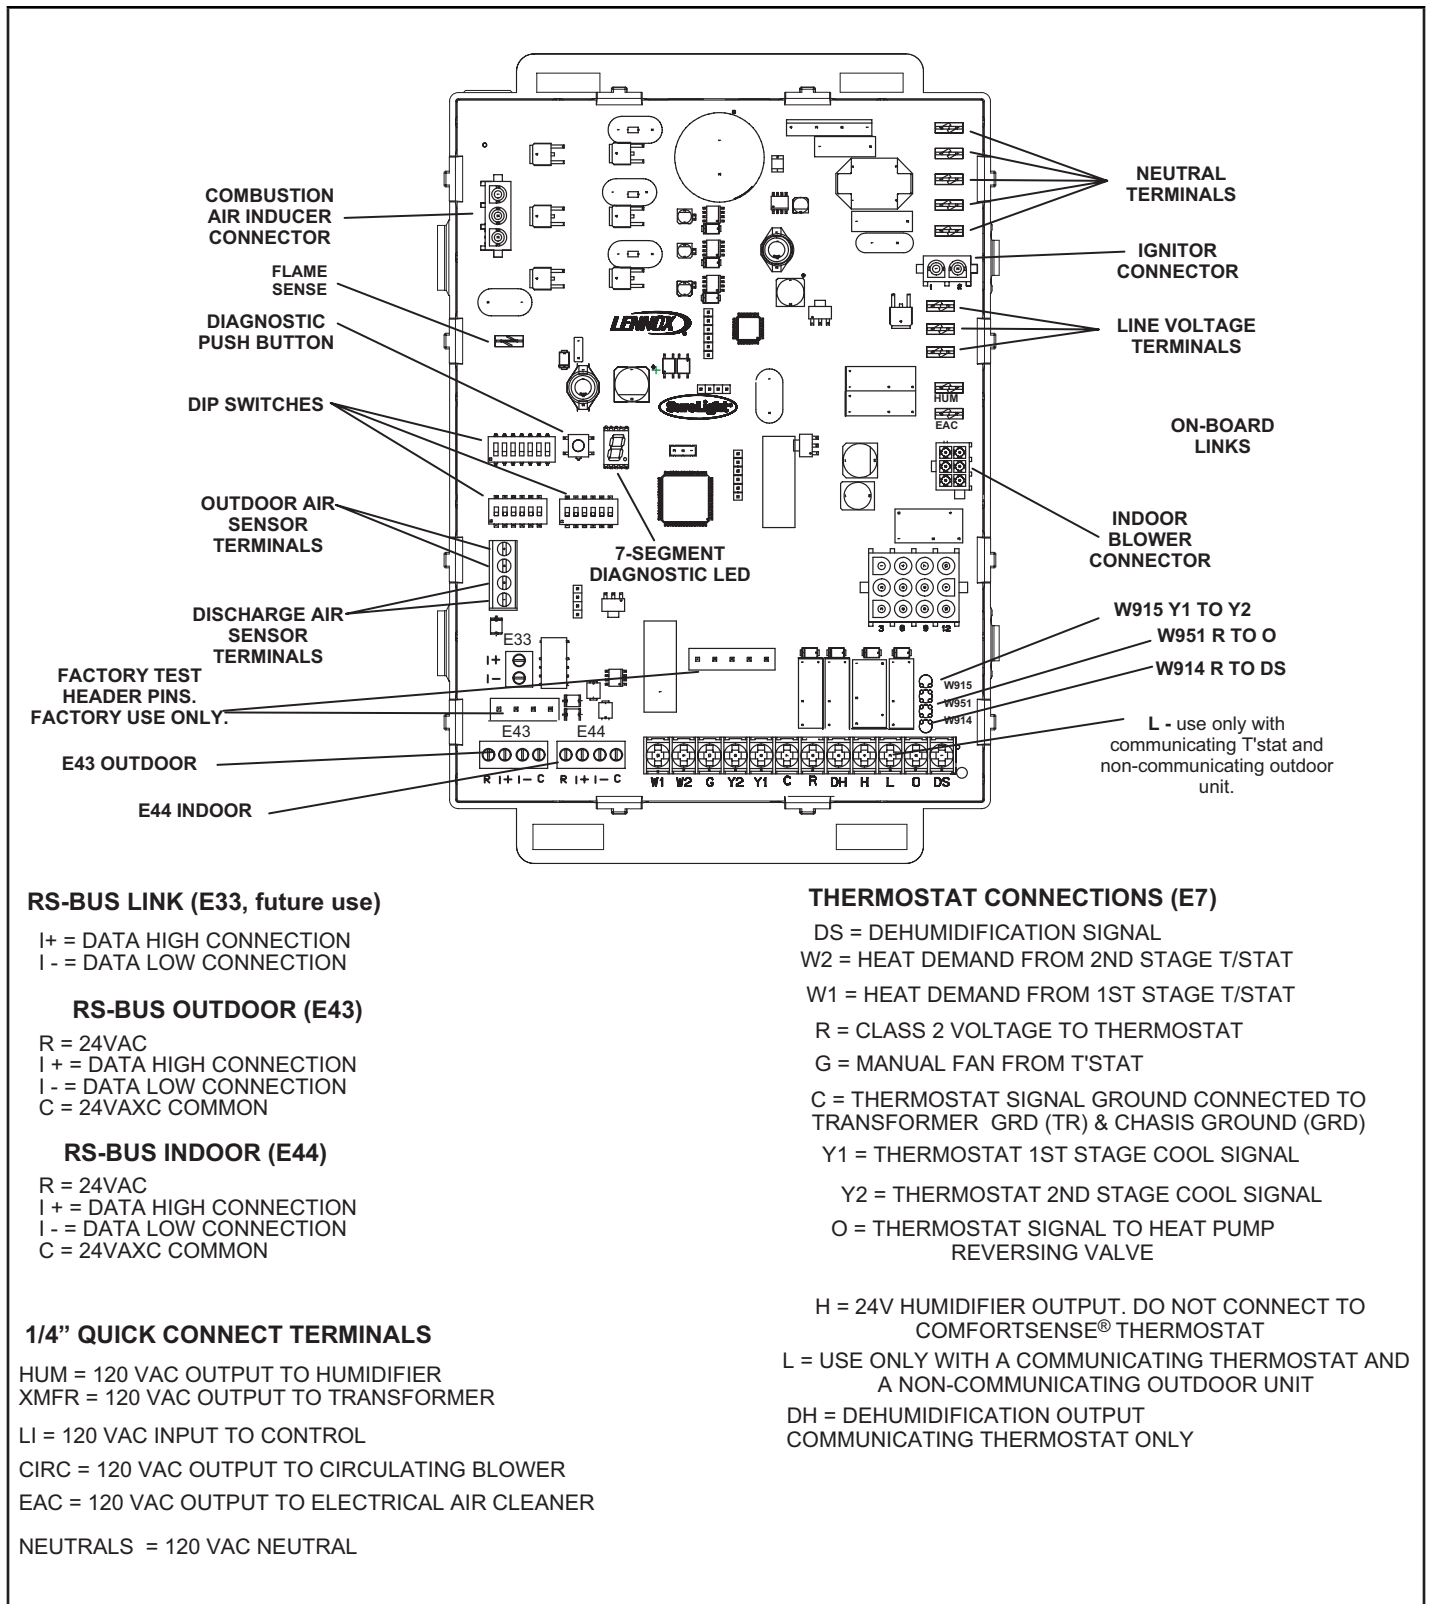
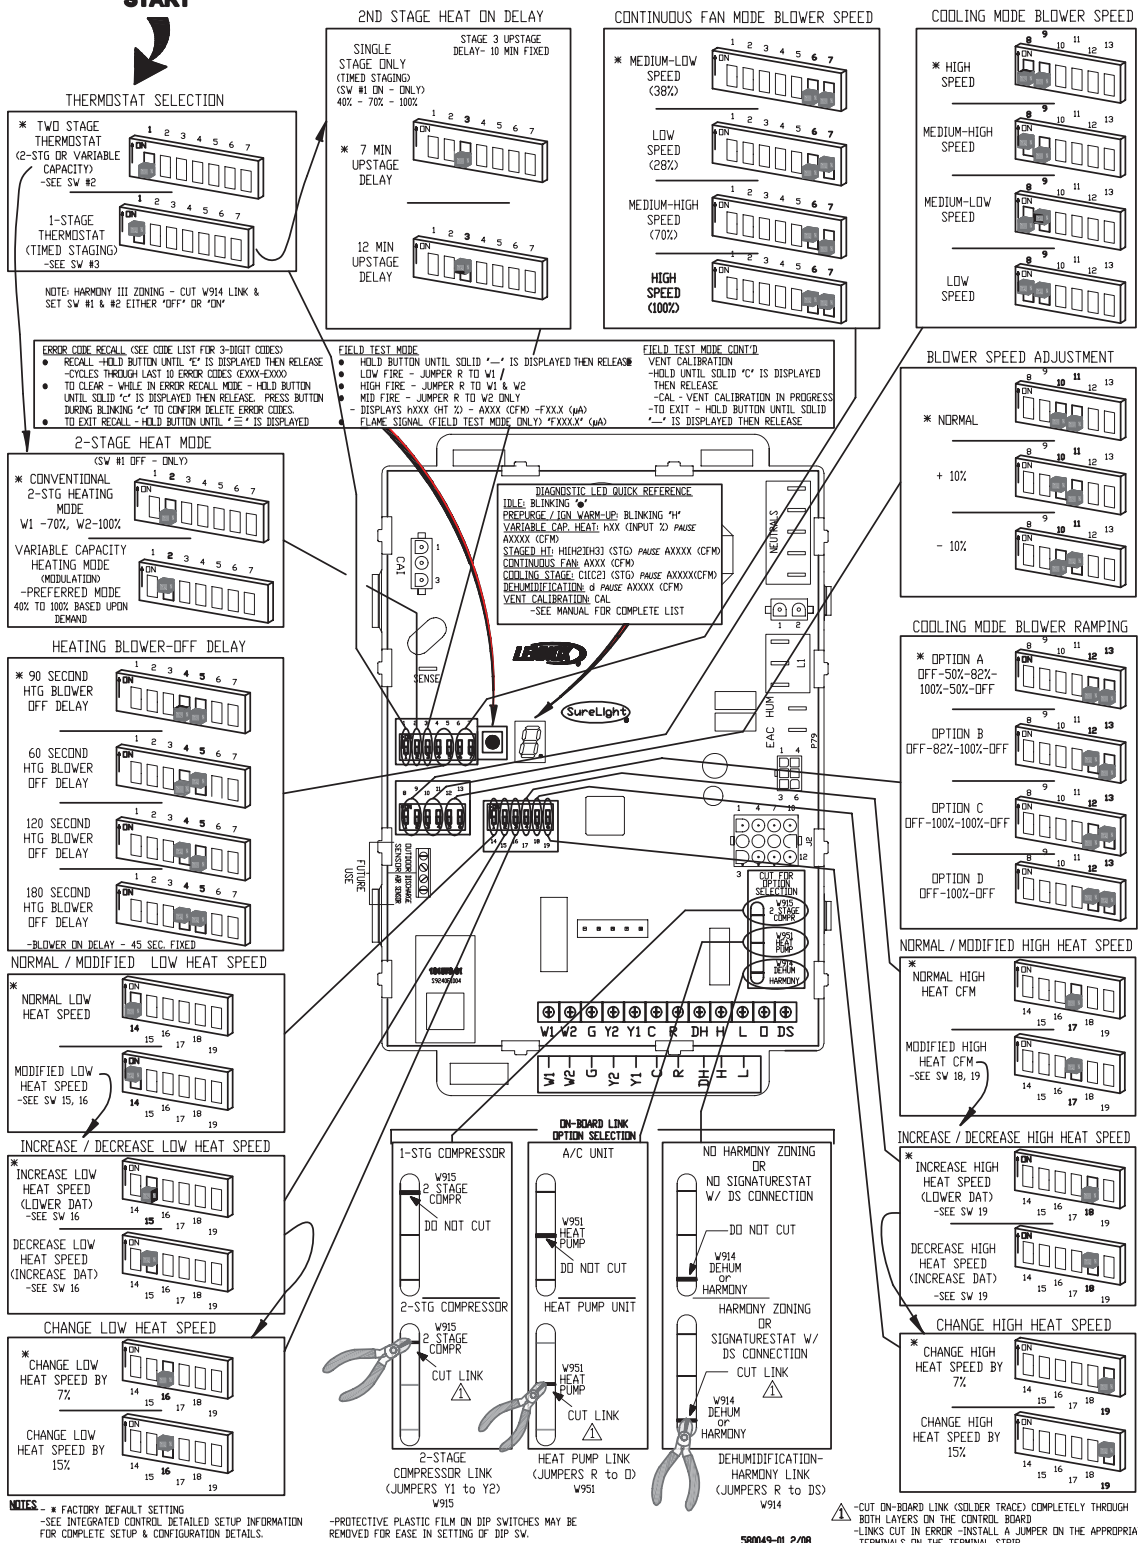

FIGURE 4
FIGURE 5
SLP99DFV units are equipped with the Lennox SureLight® variable-capacity integrated control. This control can be used with a communicating thermostat as part of a communicating system. The control can also operate with a conventional single or two-stage thermostat. The system consists of an ignition / blower control (FIGURE 4 and FIGURE 5) with control pin designations in TABLE 1, TABLE 2 and ignitor. The control provides gas ignition, safety checks and indoor blower control with variable capacity rate gas heating. The furnace combustion air inducer, gas valve and indoor blower are controlled in response to various system inputs such as thermostat signal, pressure and limit switch signal and flame signal. The control features a seven-segment LEDdisplay, indicating furnace status (including indoor blower) and error codes. The LED flashes in single digits. For example using table 14 under LIMIT CODE, an "E" followed by "2" followed by "5" followed by "0", the limit switch circuit is open. The control also has two 120 volt accessory terminals (used for a humidifier and electronic air cleaner) rated at (1) one amp each.
The control can be made to operate in three modes: variable capacity, three-stage timed or two-stage. The variable capacity and two-stage modes are only operational with a two-stage thermostat. The thermostat selection is made using DIP switches one and / or two (figure 4) and must be positioned for the particular application.
Heating Operation DIP Switch Settings -- FIGURE 4 Switch 1 -- Thermostat Selection -- This unit may be used with either a single-stage or two-stage thermostat. The thermostat selection is made using a DIP switch which must be properly positioned for the particular application. The DIP switch is factory-positioned for use with a two-stage thermostat. If a single-stage thermostat is to be used, the DIP switch must be repositioned. See TABLE 3.
On-Board Link W914 DS to R (FIGURE 4)
On-Board Link W951 R to O (FIGURE 4)
On-Board Link W915 Y1 to Y2 (FIGURE 4)